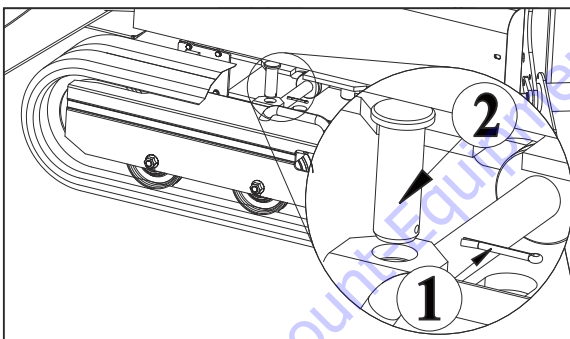

Figure 3-13.
6. Remove the cotter pin 1 - Figure 3-13.